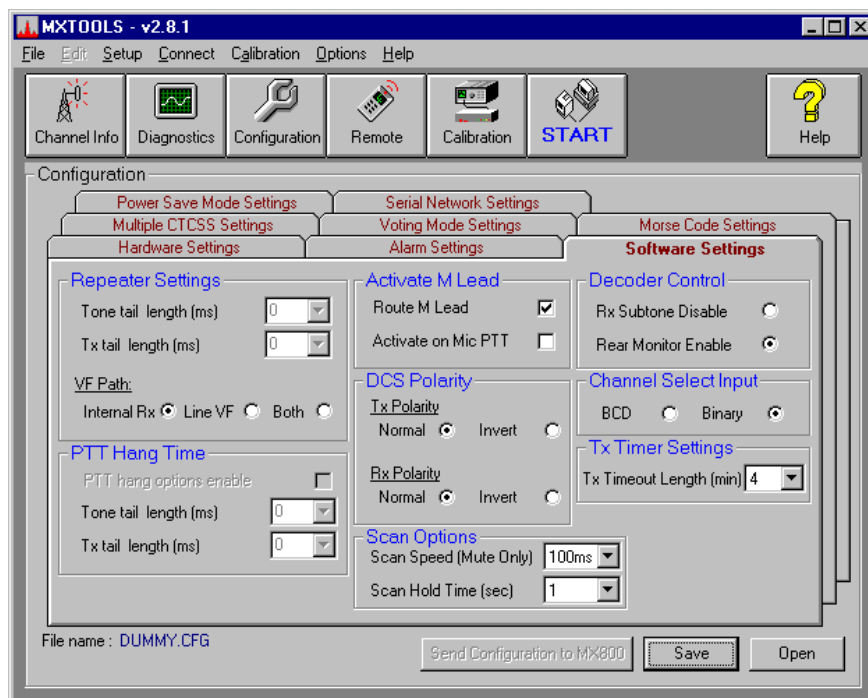

Figure 2
5. When setting the MX800 programming Configuration parameters, ensure that the TX Tail and Tone Tail are set to 0, and that Active M Lead is set to “Route M Lead”. Refer to Figure 2.